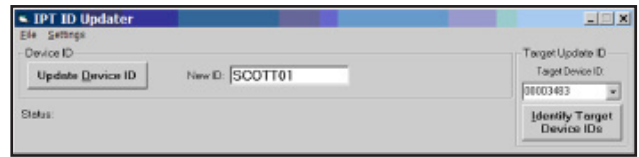

FIGURE 8
6. On the SEMS II REPEATER UNIT, press and hold the ON/OFF button for approximately eight (8) seconds. The lights on the SEMS II REPEATER UNIT will flash GREEN and then RED. When the RED lights begin flashing alternately, the SEMS II REPEATER UNIT is in Transmit Mode. You have approximately thirty (30) seconds to complete the Update before the SEMS II REPEATER UNIT times-out.
7. Select "Identify Target Device." After a few seconds, the screen will display a list of the ID numbers for all units that are in Transmit Mode in the immediate area. Select the ID number for the unit you wish to Update. See FIGURE 8.